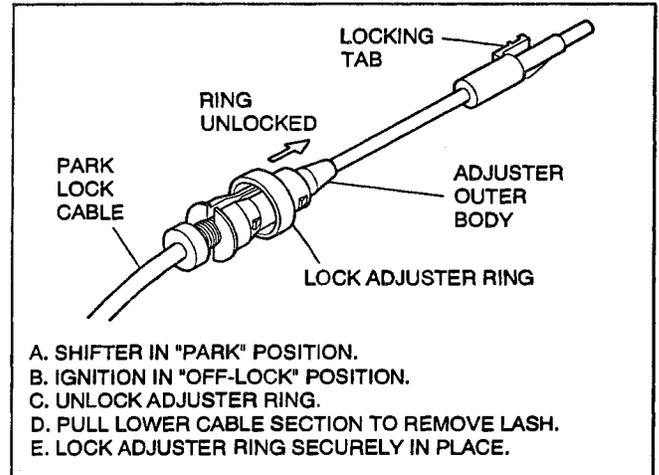

Figure 19 - Adjusting Park Lock Cable
- Park lock cable assembly (48). (See Figure 19)
18. Remove steering column lock cylinder (17) from lock module assembly (15).
19. Upper shroud (10).
20. Two torx head screws (14) to upper shroud (10).
2. Hexagon flanged head bolt (46).
3. Ball & actuator assembly (45).
4. Pry off locking ring on park lock cable assembly (48). (See Figures 19,20)
- Move park lock latch to gain access to lower oval head 6-lobed socket tap screw (47).
5. Two oval head 6-lobed socket tap screws (47) from shift gate.
6. Shift lever clevis (41).
- A. Lift up on shift gate and rotate shift lever clevis (41).
- B. Clevis (41) from gearshift lever assembly support bracket (49).